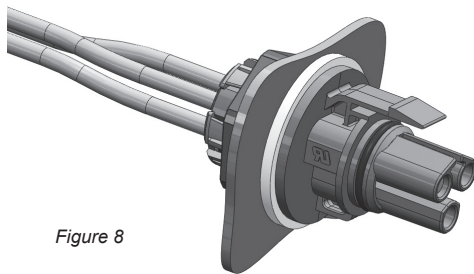

Figure 8
Step 6 Assembly is complete. (See figure 8)